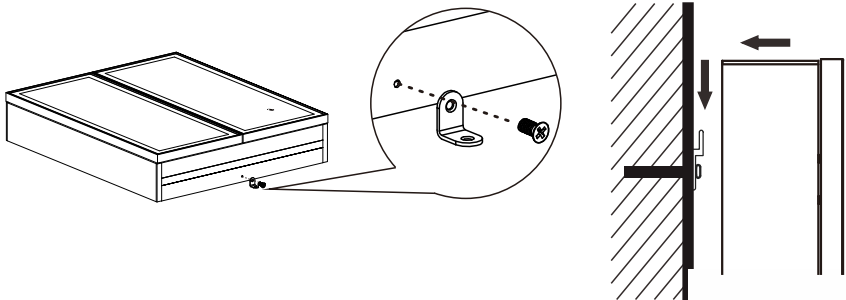
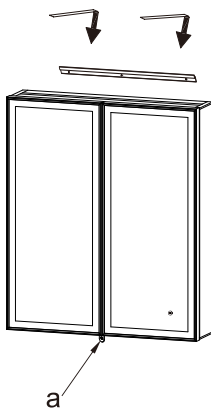
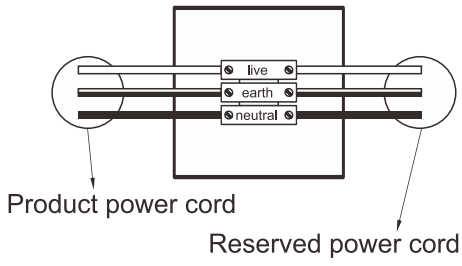

Fig.3
Fig.4
Fig.6
2.1 Using a screw to tighten the L shape fixing on the bottom of the cabinet (Fig.3).
Attach the mirror cabinet to the bar as shown in Fig. 3, open the cabinet door, and mark on the wall with a pencil (Fig. 4) through the backplane hole (a).
2.3 Repeat the operation as shown in Fig. 3 and mount the mirror cabinet to the bar, make sure that the circuit on the wall is not energized and connect the three-core wire reserved on the wall to the three-core wire terminal block on the product (Fig. 6), and then tighten the screws on the backplane (Fig.6-b).